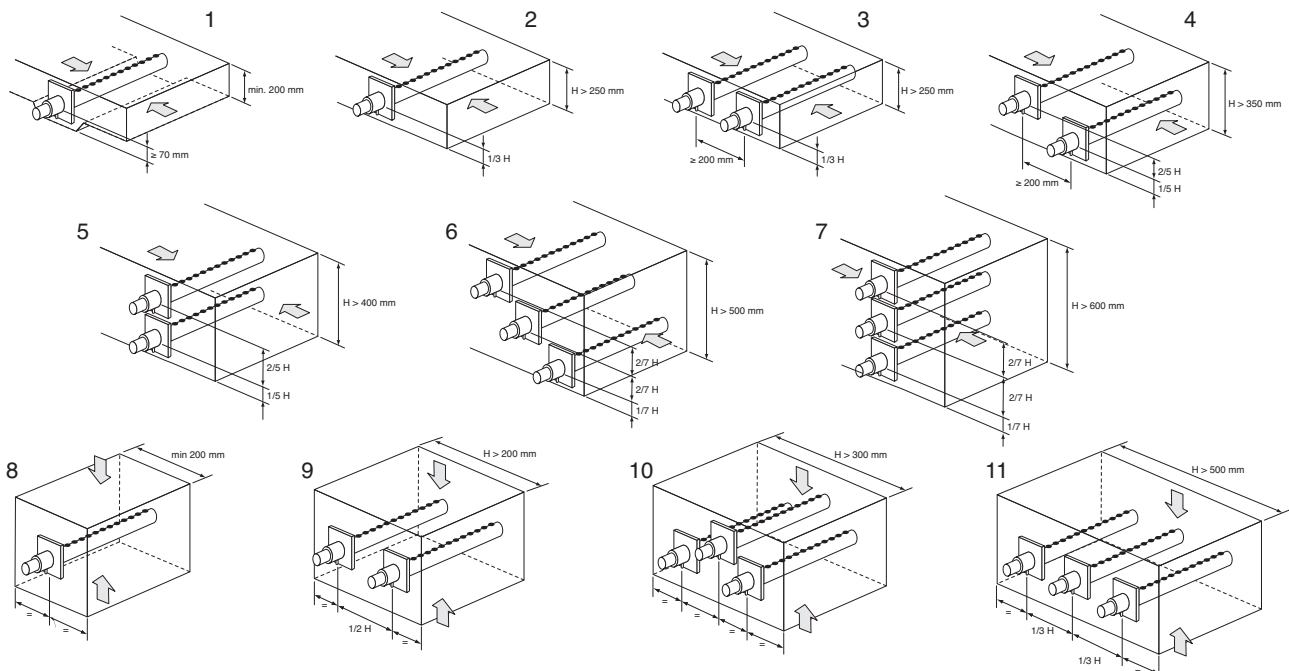

Fig. 4.b
- Pockets or traps must thus be avoided, in that the condensate may be trapped; attention should also be paid to avoid choking the hose due to sharp bends or twisting (see Fig. 4.c).